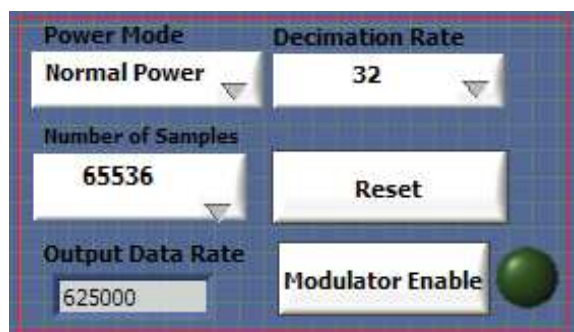

Figure 9. Powering Up
5. Change the decimation rate setting by clicking the **Decimation Rate** drop-down menu as shown in Figure 9. Note that the device powers up in a default decimation setting of 32. Changing the rate allows the user to vary the oversampling rate and implement the five on-chip decimation options offering output data rates ranging from 78 kHz to 2.5 MHz output for the AD7760.
1. Click **Modulator Enable** as shown in Figure 9. When in modulator mode, the green indicator beside the control button appears lit.